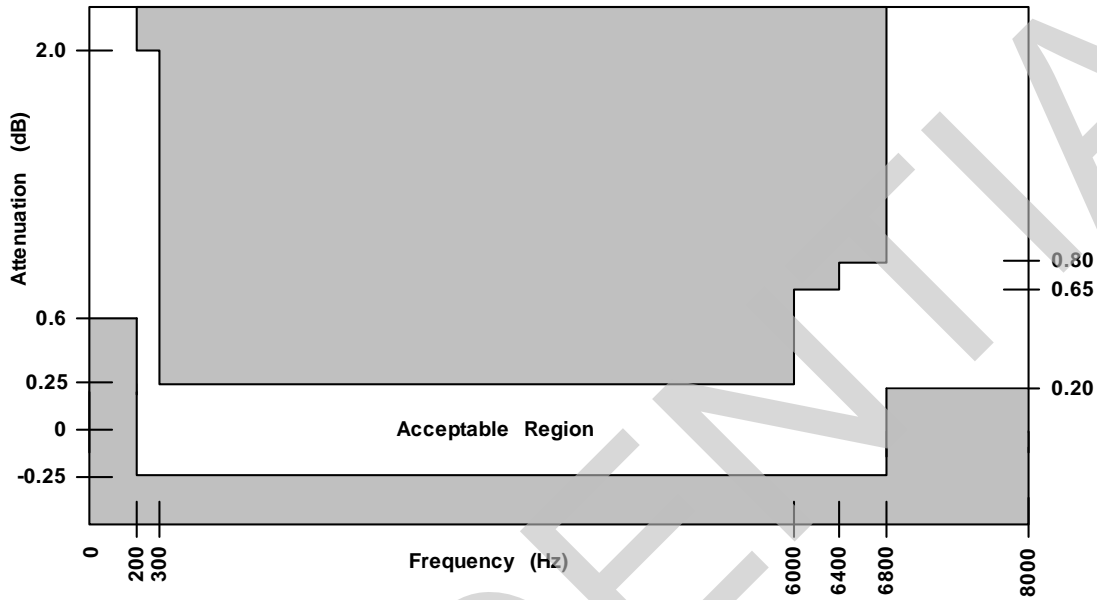
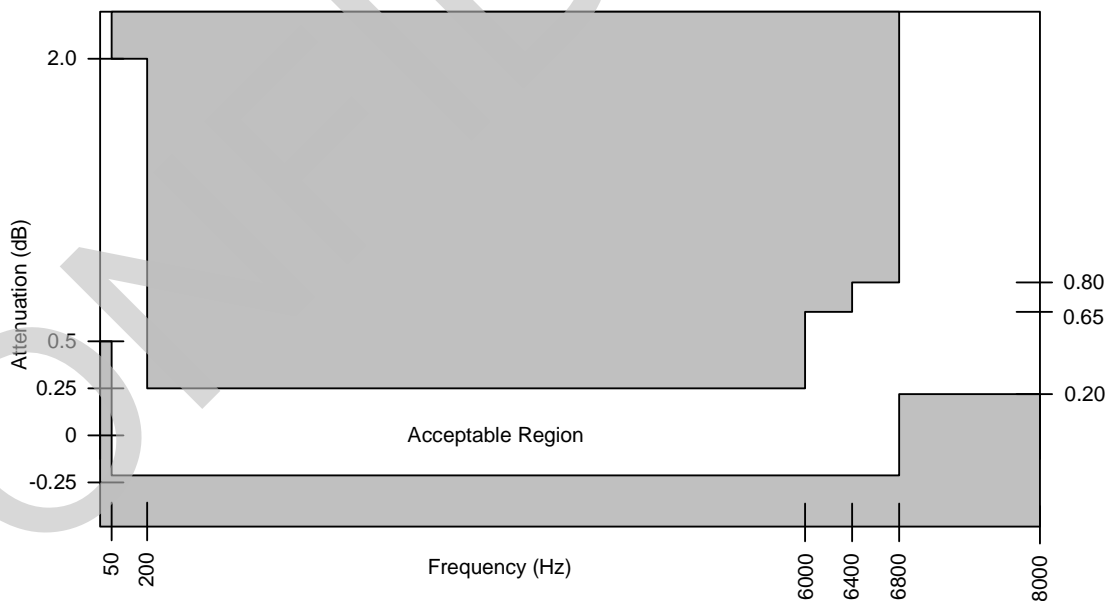

Figure 31 - Transmit (A to D) Path Attenuation vs. Frequency - (with High-Pass Filter Enabled)
Figure 32 - Receive (D to A) Path Attenuation vs. Frequency
3. See Figure 31. "Transmit \(A to D\) Path Attenuation vs. Frequency - \(with High-Pass Filter Enabled\)" on page 46 and Figure 32. "Receive \(D to A\) Path Attenuation vs. Frequency" on page 46.
The signal attenuation in either path is nominally independent of the frequency. The deviations from nominal attenuation will stay within the limits shown in Figure 31 and Figure 32. The reference frequency is 1014 Hz and the signal level is -10 dBm0.